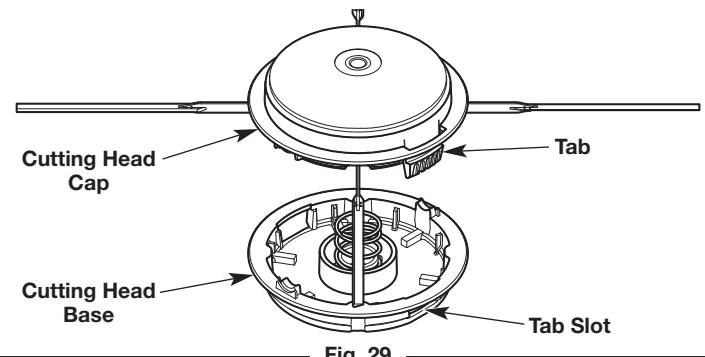

Fig. 29
Firmly press a tab on the cutting head cap (Fig. 29). Use your thumb. If necessary, use a flat-head screwdriver:
- c. While holding the screwdriver in place, gently twist the screwdriver to unlock the tab from the tab slot (Fig. 29).
7. Align the tabs on the cutting head cap with the tab slots on the cutting head base (Fig. 29). Push the cutting head cap onto the cutting head base until both tabs snap into place.